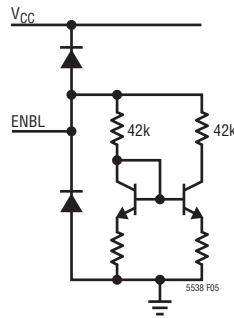

Figure 5. Simplified Schematic of the Enable Circuit
**TYPICAL PERFORMANCE CHARACTERISTICS** (Test Circuit shown in Figure 5)
A simplified circuit schematic of the ENBL Pin is shown in Figure 5. The enable voltage necessary to turn on the LT5538 is 1V. The current drawn by the ENBL pin varies with the voltage applied at the pin. When the ENBL voltage is 3V, the ENBL current is typically 100  $\mu$ A. When the ENBL voltage is 5V, the ENBL current is increased to 200